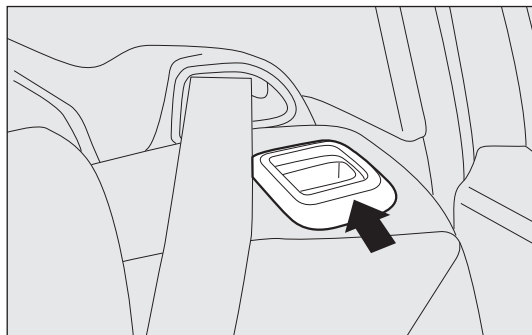

fig. 131
**IMPORTANT** When the red band next to the backrest folding levers fig. 131 disappears, it means the backrest is properly secured. If you can still see the red band, the backrest is not securely fastened. When returning the backrest to its normal position, make sure it is correctly fastened and you hear the lock click.